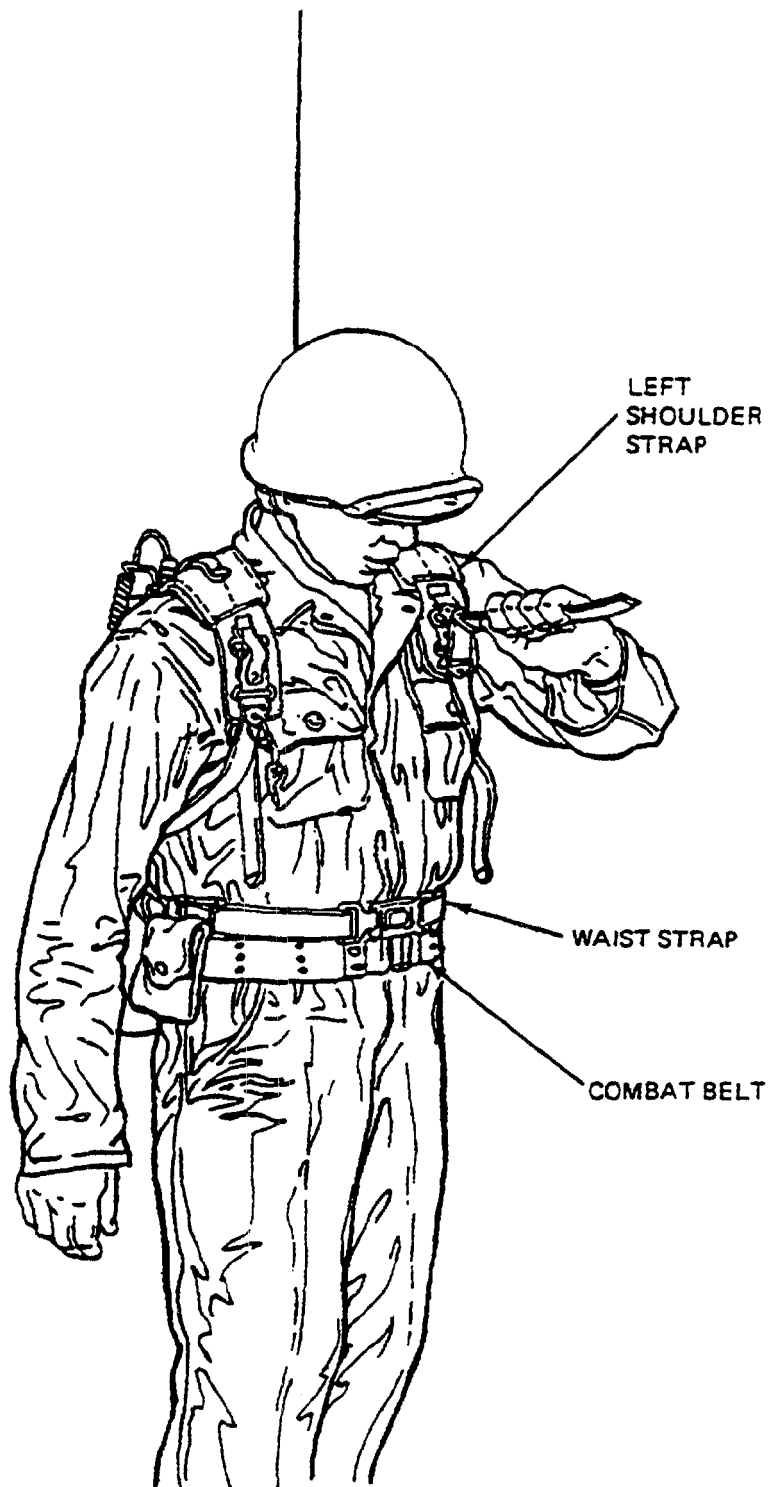

Figure D-8. Installing AN/PRC-77 for Man-Pack Operation
(1) Place the LC-2 flat on a level surface with the cargo shelf facing up.
(2) Place the receiver-transmitter on the LC-2 with its front panel toward the top and the CY-2562/PRC-25 resting on the cargo shelf of the LC-2.
(3) Fasten the RT-841/PRC-77 to the LC-2 with the two cargo tiedown straps. Hook the metal end of the strap into the buckle. Then feed the cloth end through the center slot on the buckle, then down through the end slot. Tighten strap, then snap down buckle to secure.
(4) Clip the CW-503/PRC-25 (cotton bag) to the upper cargo tiedown strap.
b. Mount the LC-2 on the operator as follows (Figure D-8).
(1) Install the desired antenna.
(2) Connect the H-189/GR (handset) to one of the AUDIO connectors on the front panel of the RT-841/PRC-77.
(3) Place the LC-2, with the RT-841/PRC-77 attached, on the operator's back. Place the shoulder straps over the operator's shoulders.
(4) Hook the quick-release buckle on each shoulder strap and snap down the cover strap on each.
(5) Fasten the waist straps.